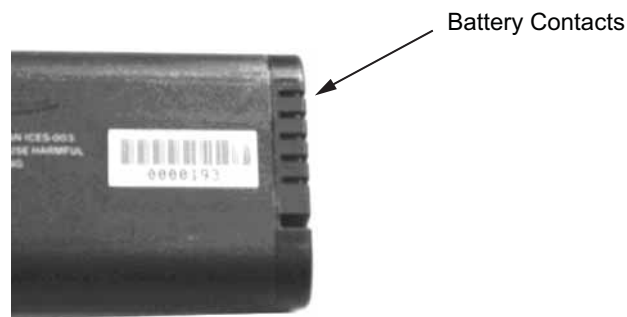

Figure 5-4. Battery Contacts
5. Replacement is the opposite of removal. Note the orientation of the battery contacts, and be sure to insert the new battery with the contacts facing the front of the instrument, as illustrated in Figure 5-4.